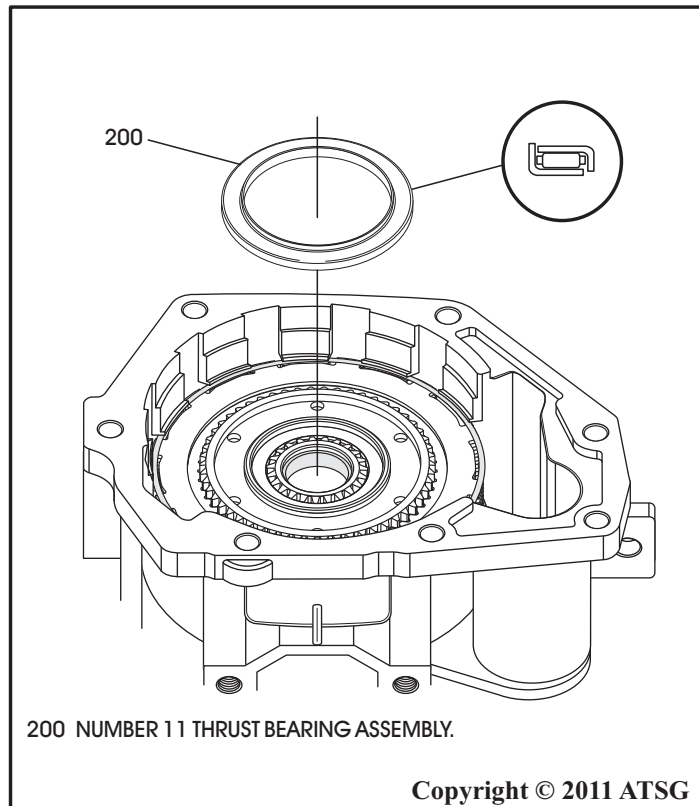

Figure 239
61. Install the number 11 thrust bearing on overdrive clutch hub, as shown in Figure 239, and retain with liberal amount of Trans-Jel®.